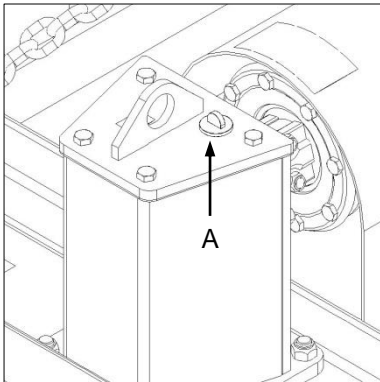

Fig. 5
- ✔ A dipstick (Fig. 5-A) is provided on the implement gearbox for this purpose. The oil level should fall within the area indicated on the dipstick.
- ✔ Die ratkas het 'n peilstok (Fig. 5-A) vir hierdie doel. Die olievlak moet binne die perke val wat op die peilstok aangedui word.